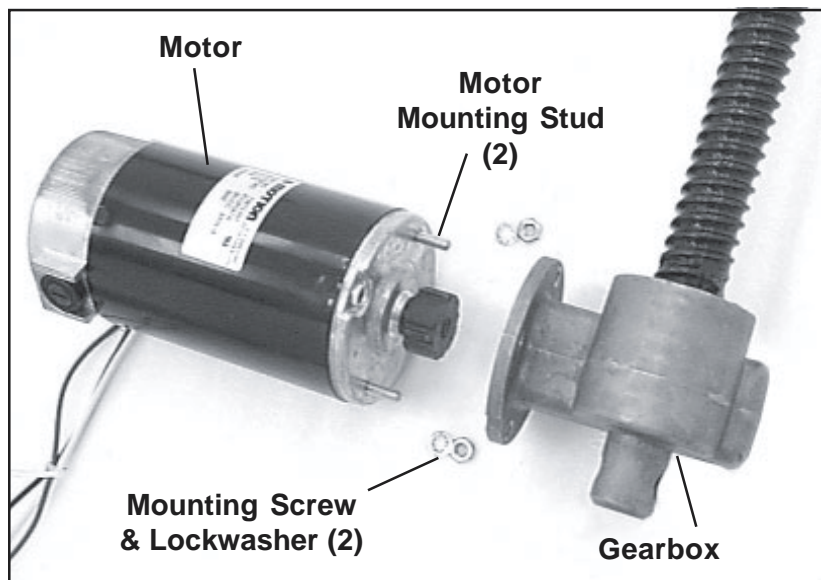

Figure 41. Motor Removed from Actuator Gearbox
2. With a 3/8 in. wrench, remove the two nuts and lockwashers that hold the motor to the gearbox (Figure 41).